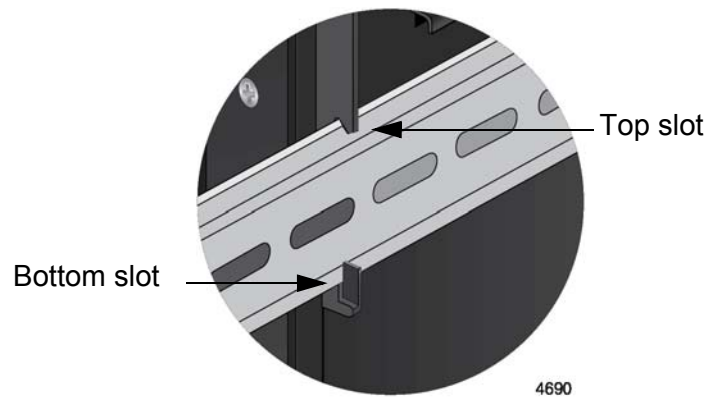

Figure 21. Verifying the DIN Rail Installation
4. Visually inspect the bracket to verify that the DIN rail is now fitted into the top and bottom slots. Refer to Figure 21.